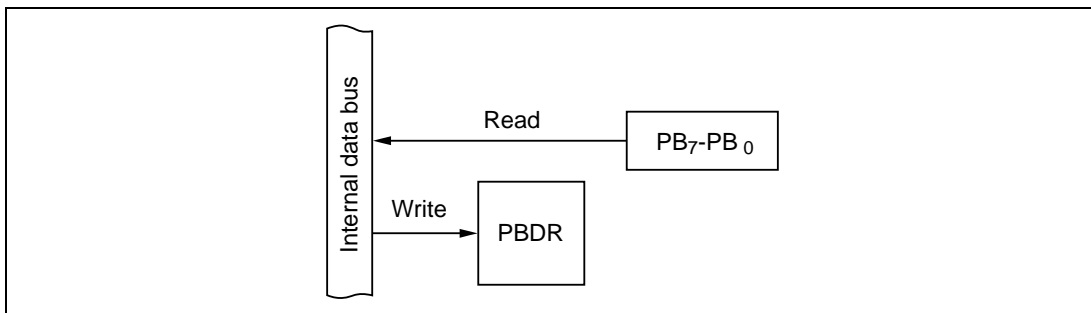

Figure 10-78 Input Port (Modes 2 and 4)
(1) Input Port (Modes 2 and 4): Figure 10-78 shows a block diagram illustrating the general-purpose input function. Table 10-58 indicates register read/write data. Values written in the port B data register (PBDR) have no effect on general-purpose input lines. When read, PBDR returns the value at the pin.